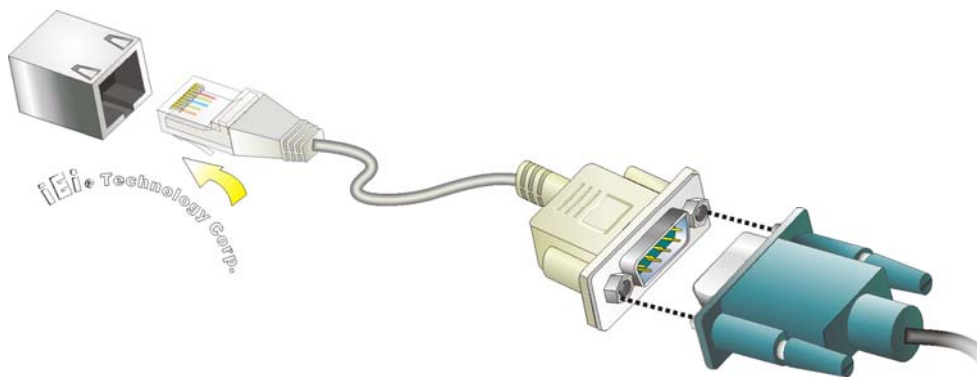

Figure 3-23: RJ-45 RS-232 Serial Device Connection
Step 2: Insert the RJ-45 connector. Insert the RJ-45 connector on the RJ-45 to DB-9 COM port cable to one of the RJ-45 RS-232 connectors on the TANK-700. See **Figure 3-23**.